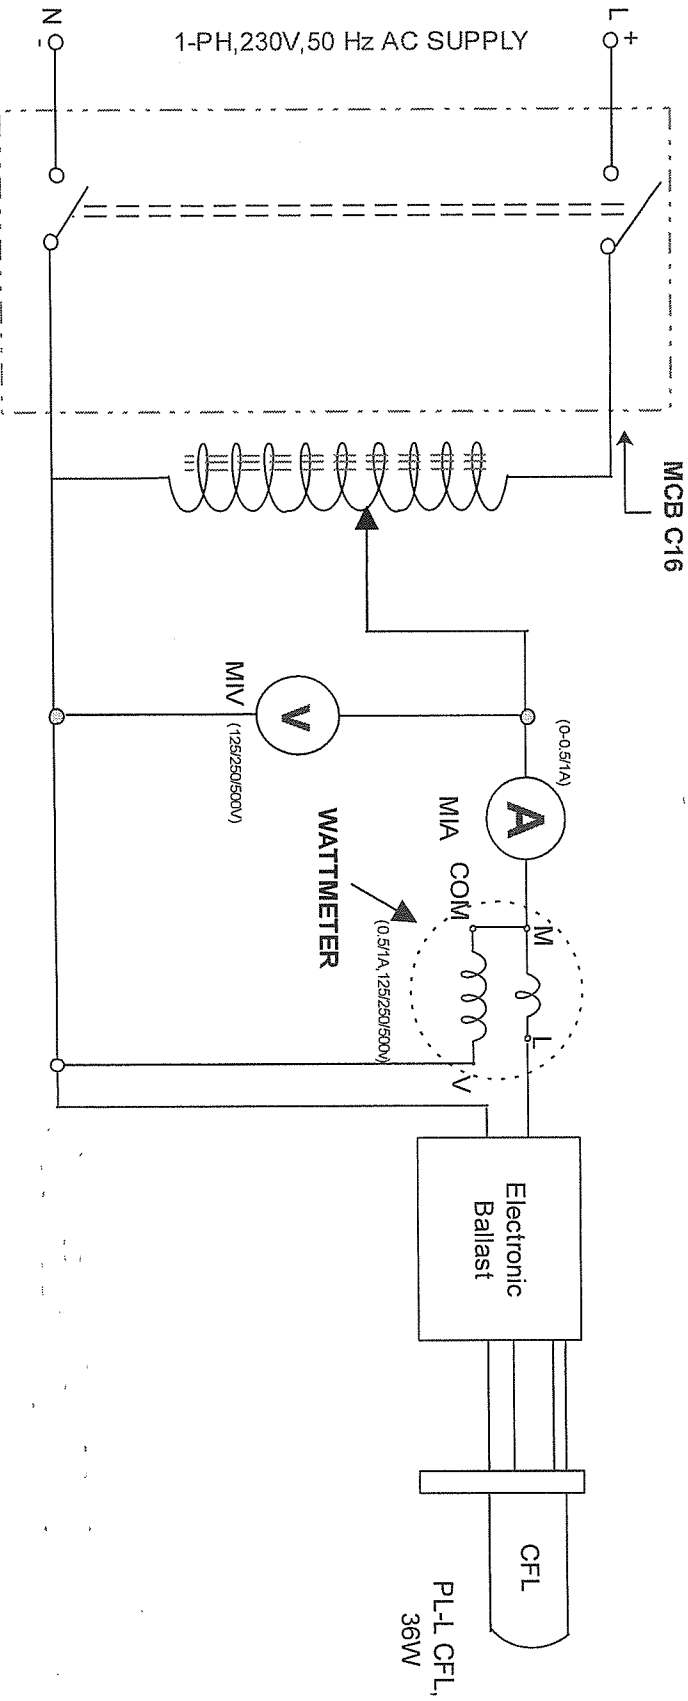

Fig: 6.4 Circuit Diagram for Determination of Lamp Characteristic With Electronic Ballast (Compact Fluorescent Lamp)
8. Connect the Compact Fluorescent (CFL) as shown in Fig.6.4. and measure the power consumption and compare with the readings for fluorescent lamp.